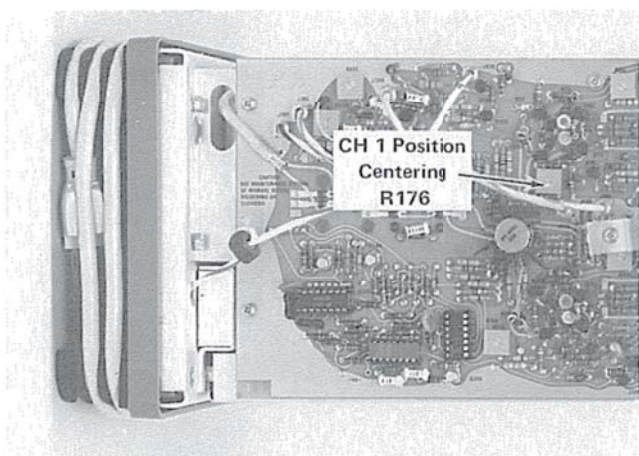

Fig. 5-9. Location of CH 1 Position Centering adjustment.
- d. ADJUST—CH 1 Position Centering adjustment, R176 (see Fig. 5-9), so the top of the CRT display can be positioned below the center horizontal graticule line, and the bottom of the display can be positioned above the center horizontal graticule line.